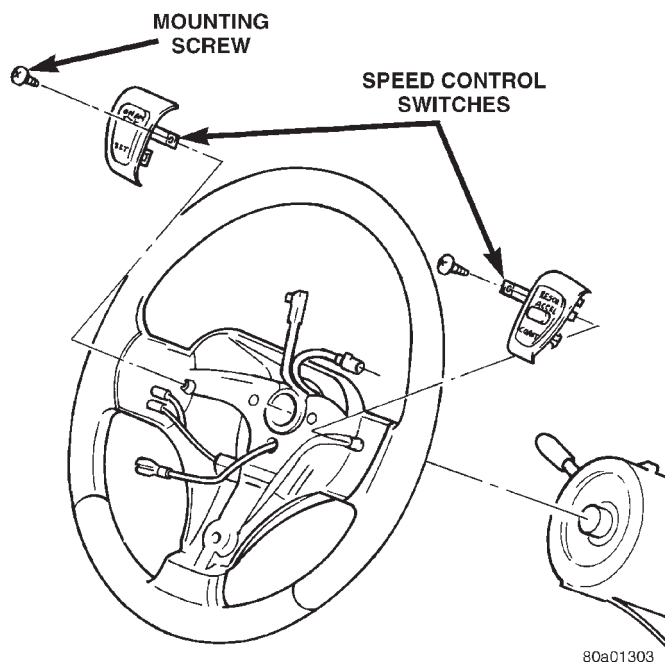

Fig. 4 Speed Control Switches
- (1) Disconnect and isolate negative battery cable.
- (2) Remove airbag module. Refer to Group 8M for procedures.
- (3) Remove switch-to-steering wheel mounting screw (Fig. 4).
- (4) Remove switch.
- (5) Reverse removal procedures to install.